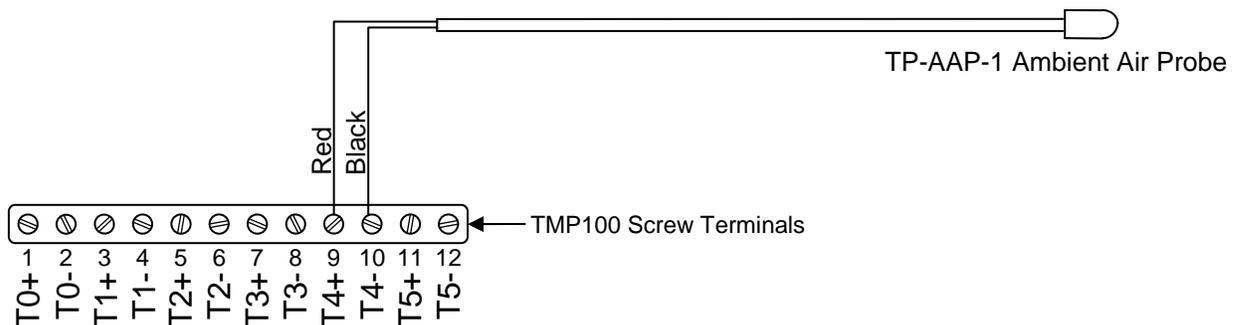

Figure 1 – Wiring Diagram
Please follow these instructions to connect the TP-AAP-1 ambient air temperature probe to the NMEA 2000® network via a Maretron TMP100 Temperature Module. The wiring diagram appears in Figure 1 below. The diagram shows a connection to channel #4, but connections to other channels are similar. Please note that the TP-AAP-1 may be connected only to channels #2, #3, #4, and #5. It may not be connected to channels #0 and #1.
2. The TP-AAP-1 cable contains one red and one black wire. Connect the black wire to the appropriate Tx- terminal on the TMP100 as shown in Figure 1 below.
3. Connect the red wire to the appropriate Tx+ terminal on the TMP100 as shown in Figure 1 below.